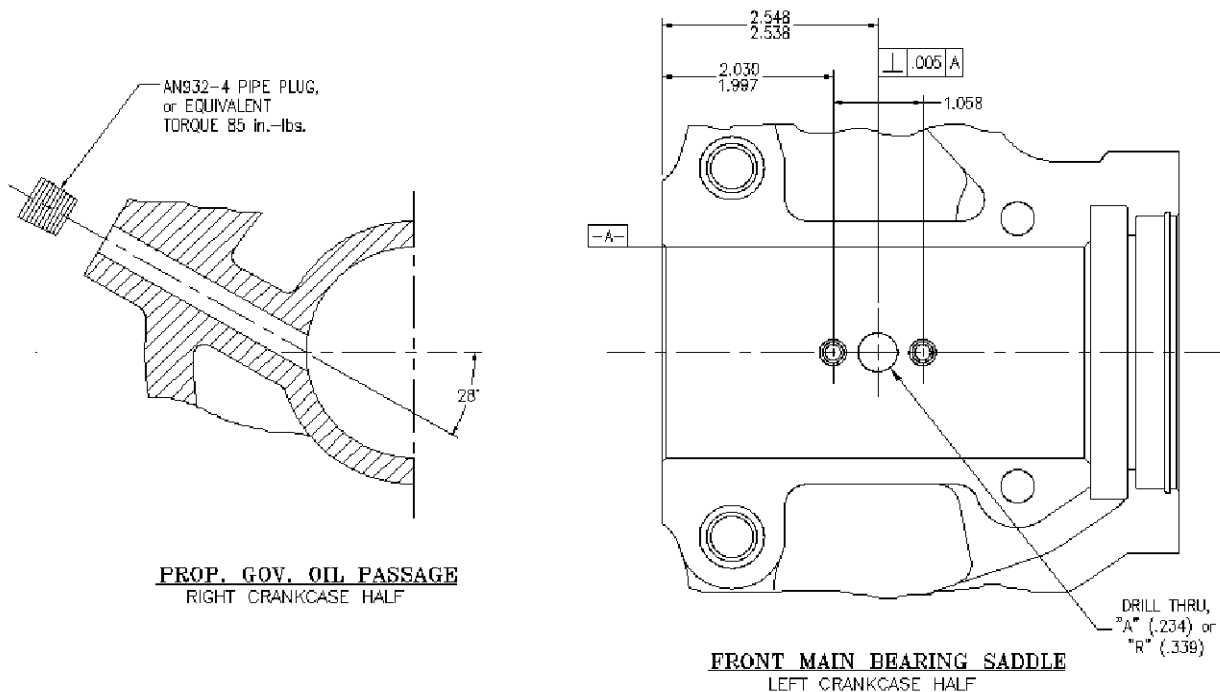

Figure 2. Crankcase Oil Drain Provision (fixed pitch operation)
If the crankshaft does not have oil drain provisions (no lightening hole), or if an unpierced rear plug is installed, a provision must be machined to drain oil flow into the crankcase interior by drilling a single hole between the bearing dowels in the front main bearing saddle of the left crankcase half (see Figure 2, 2-4 cylinder side).
- b. Drill a hole 0.005-0.015 inch (drilled as shown Figure 2) and de-burr the edges. Thoroughly inspect the crankcase to ensure that all metal chips have been removed.